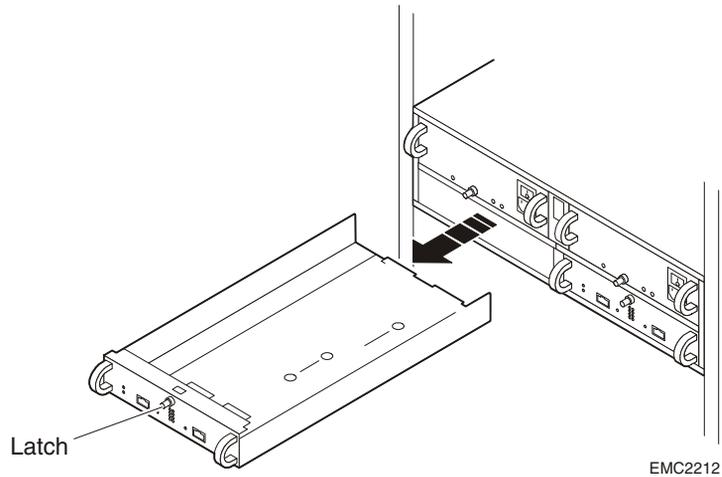

Figure 3-11 Removing an LCC
2. Turn the latch counterclockwise to release the module, and then remove the LCC from its slot, as shown in Figure 3-11.